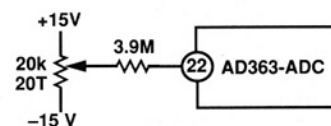
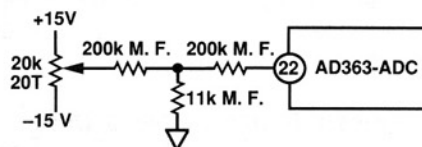

Figure 9a.
Figure 9b.
**Offset Adjust, AD363-ADC:** The simplest offset adjust circuit requires a 20-turn,  $20\ \text{k}\Omega$  cermet potentiometer and a  $3.9\ \text{M}\Omega$  resistor as shown in Figure 9a. This arrangement has an adjustment range of  $\pm 8$  LSBs, and will contribute a maximum of  $2.3\ \text{ppm}/^\circ\text{C}$  offset drift with a carbon composition fixed resistor ( $\text{TC} = -1200\ \text{ppm}/^\circ\text{C}$ ). Drift contributions from the offset adjust circuit can be reduced well below this level using metal-film resistors and the circuit of Figure 9b.